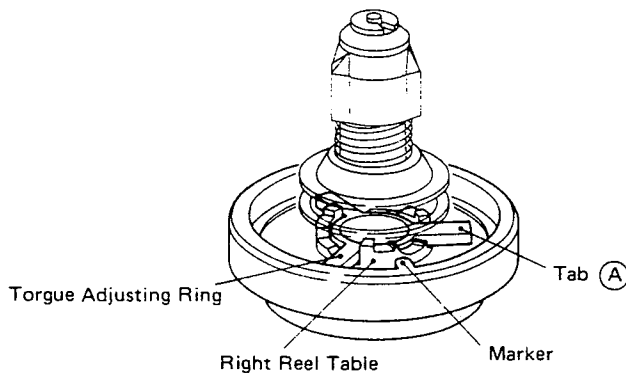

Fig. 6-4-5
- 2) If the torque is out of the limits, change the resistor R42 on the Control (A) PCB Ass'y from 120 k ohm to 110 k ohm.
- 3) If the torque is still out of the limits, adjust the torque adjusting ring provided on the right reel table. The torque can be adjusted in three values as shown in Fig. 6-4-5. Turn the torque adjusting ring with the tab A pulling slightly upward and place the tab on one of three stepped portions having pawls to fix the tab.